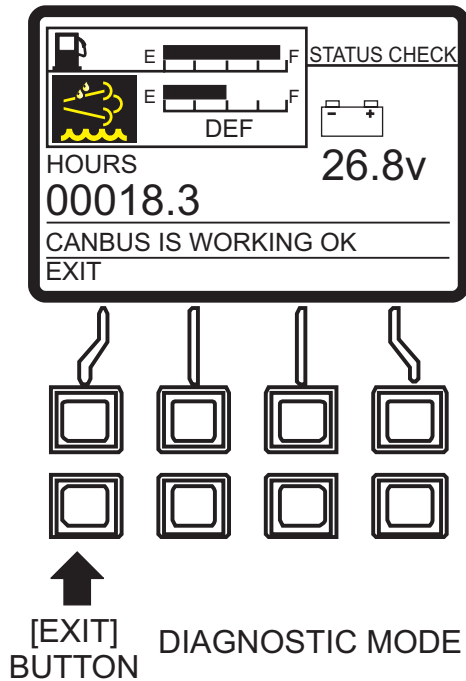

Figure 91. Status Check Screen (Diagnostic Mode)
2. Exit the Status Check Screen by pressing the [EXIT] button (Figure 91).